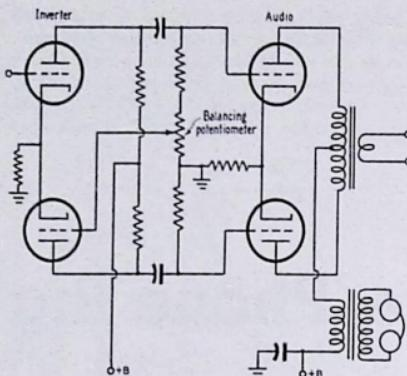

Fig. 4-3—Arrangement used for balancing phase-inverter circuits without the use of elaborate test equipment.
**T**HE arrangement shown in Fig. 4-3 provides a most convenient means of balancing phase-inverter circuits. It requires little equipment, and is perhaps more accurate than other more involved methods.